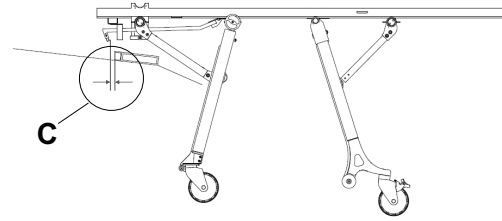

Figure 10 – Safety hook and catch plate clearance
- Horizontal clearance (C) between the safety hook and catch plate is sufficient for unloading (Figure 10)